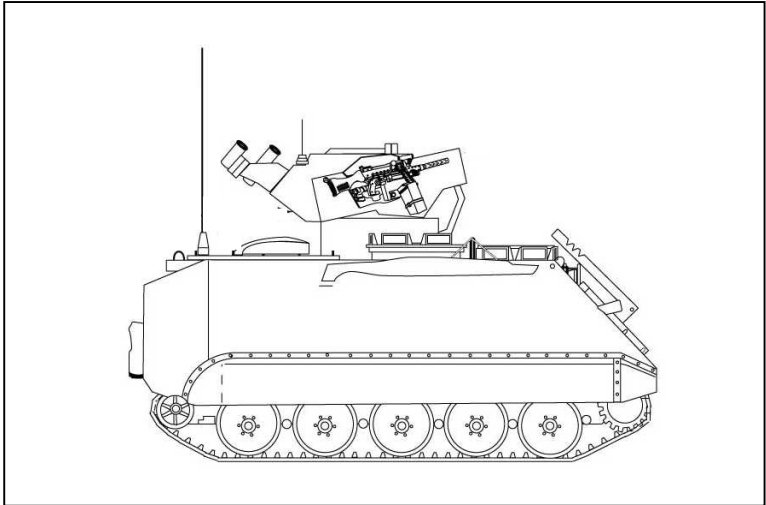

Figure 4-5-1: Location of Coaxial Machine Gun
9. The coaxial MG mount is bolted to the right hand side of the right missile launcher (see Figure 4-5-1). The mount is adjustable for both azimuth and elevation for boresighting. When the C6 is mounted, it is fired electrically by means of an electro-magnetic solenoid activated by the No. 2 from inside the turret. The azimuth and elevation adjusting nuts are loosened prior to placing the mount on the vehicle.